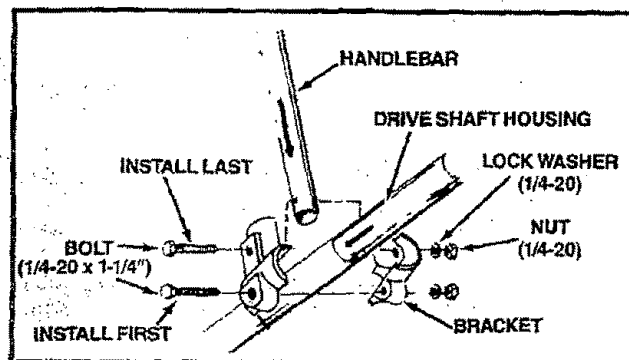

Figure 4
- Install the handlebar brackets on the drive shaft housing above the decal as shown in Figure 4.
- Install the first hex bolt, lockwasher and nut as shown in Figure 4. Tighten just enough to hold the bracket in position.
- Install the last hex bolt through the brackets and handlebar, then install the lockwasher and nut as shown in Figure 4.